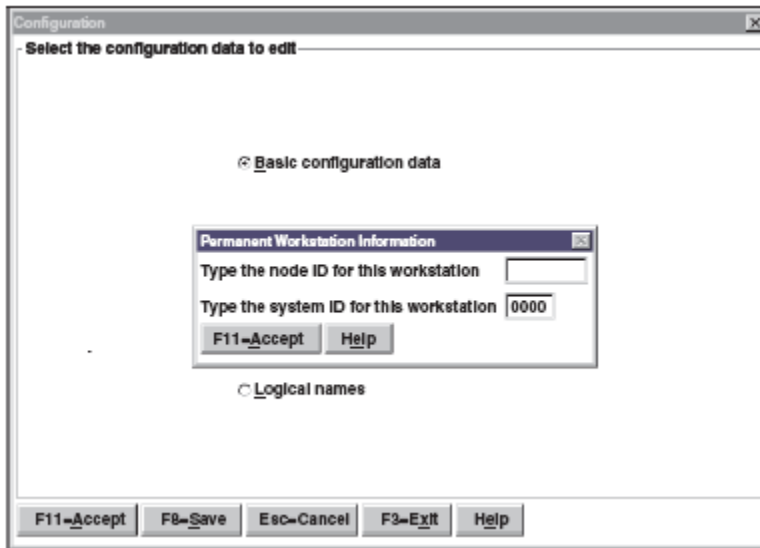

Figure 5. Permanent Workstation Information window
6. If you are installing the DDS-only version of the installation, the copying of files will proceed. Following the file copy, you will see a popup configuration screen as shown in Figure 5. Skip to step 11 to continue. If you are installing the DDS/CSF version of the installation, proceed to the next step.
11. At this point, files will be copied to the proper directory. You will then see a configuration screen popup as shown in Figure 5.